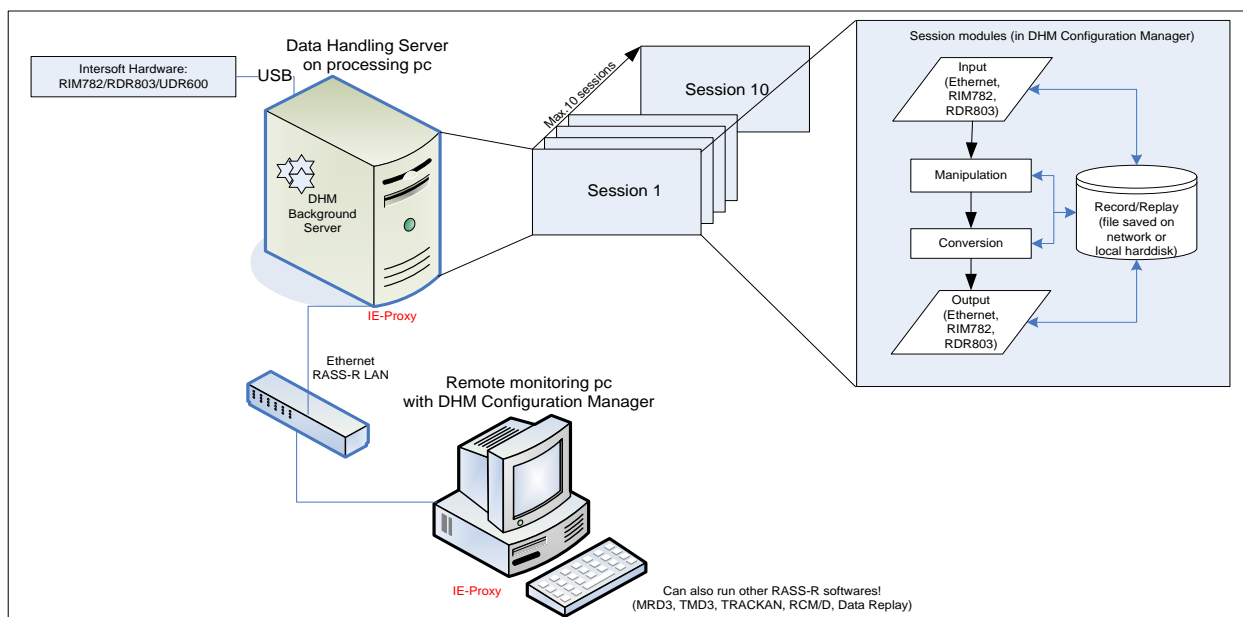
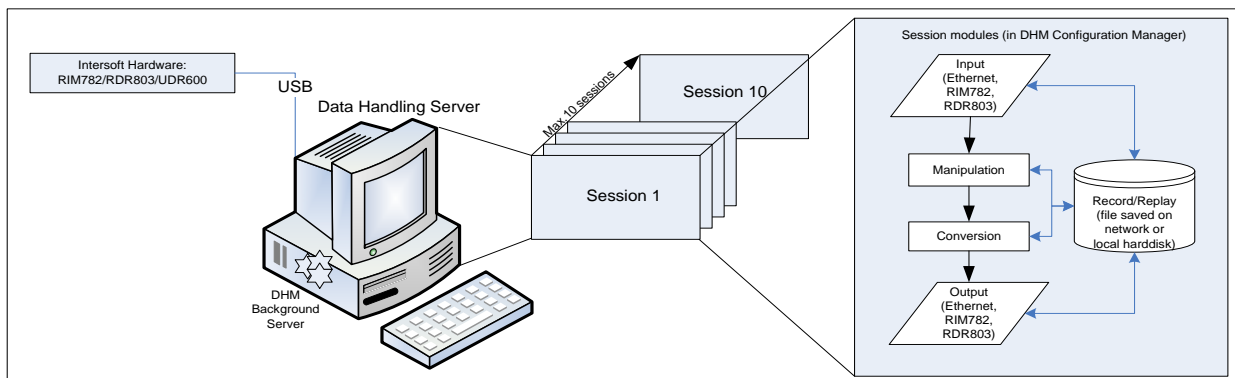

Figure 1: Block diagram of the DHM (processing and monitoring pc)
Figure 2: Block diagram of the DHM (single pc)
As already explained in the introduction in the first chapter, the DHM consists of the DHM Background Server and the DHM Configuration Manager. Both applications can be run on the same computer (see figure below) or on different computers. (See Figure 1)
All configuration of the DHM Background Server is done with the DHM Configuration Module. This connection can be done either remotely (as in Figure 1) or locally as in (Figure 2). The DHM Configuration Manager allows you to create, edit, run and monitor sessions on the DHM Background Server.
**Input modules**, collect data from external sources, external here means external to the Data Handling Module which in itself is a software service. External sources include Ethernet, files (for recording) and hardware (for example RIM782/RDR803/UDR600 as in Figure 2).
**Output modules**, provide the handled data to the outside world, outside means outside of the Data Handling Module which is viewed as a software service. External destinations include Ethernet, files (for replay), hardware (for example RDR803 or UDR600 as in Figure 2) and special inter application data exchange protocols. (for example, to send pre-processed data from the DHM to the MRD3)